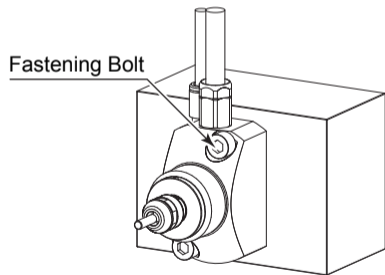

Fig. 36
- ① Insert the flange type motor spindle housing diameter area into the fixed base holder of the machine.
- ② Secure the motor spindle through the counter-sunk holes on the flange using bolts as shown in Fig. 8, Fig. 9, Fig. 10 and Fig. 11. Refer to table 4 and Fig. 36 (For BM-319F / BM-319FC / BM-320F / BM-322FR / BM-322FL / BM-322FS).